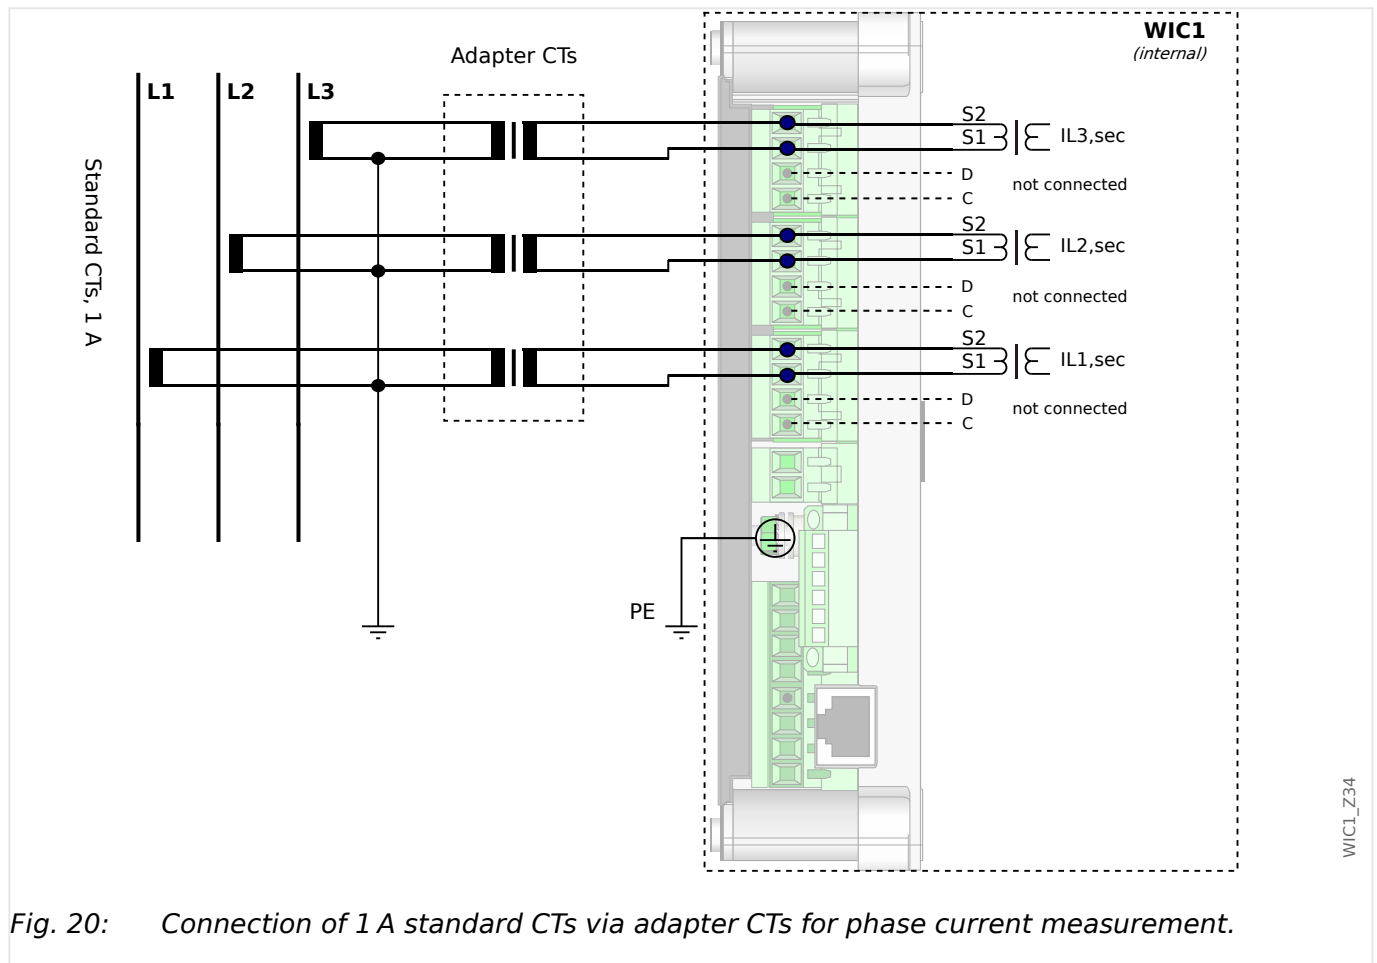

Fig. 20: Connection of 1 A standard CTs via adapter CTs for phase current measurement.
- R_{wic1} for normal connection, as shown in  Fig. 20: $R_{wic1} = 0.2 \Omega$
- R_{wic1} for normal connection, as shown in  Fig. 20: $R_{wic1} = 0.1 \Omega$